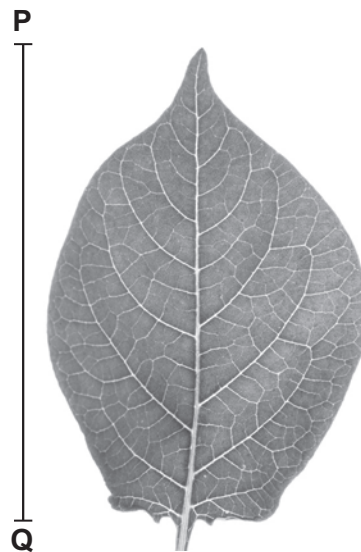

Fig. 1.3
(c) Fig. 1.3 shows a leaf from a potato plant.
(i) Draw a large diagram of the leaf shown in Fig. 1.3.
- (ii) Line **PQ** represents the length of the leaf in Fig. 1.3.
Measure the length of line **PQ** in Fig. 1.3.
Using your measurement and the formula, calculate the magnification of the leaf in Fig. 1.3.
$$\text{magnification} = \frac{\text{length of line PQ in Fig. 1.3}}{\text{actual length of the leaf}}$$
- (iii) Fig. 1.4 shows a leaf from a tomato plant. The tomato leaf is narrower than the potato leaf shown in Fig. 1.3.
Compare the leaves shown in Fig. 1.3 and in Fig. 1.4.